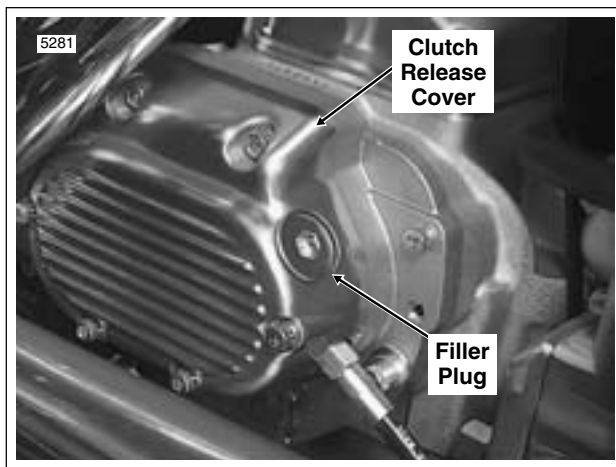
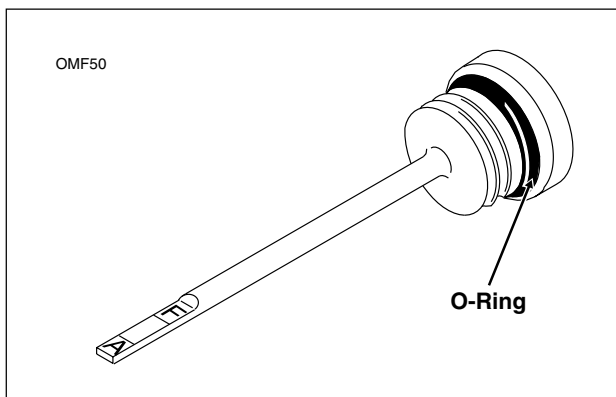

Figure 1-9. Transmission Case (Right Side)
Figure 1-10. Transmission Lubricant Filler Plug/Dipstick
1. Remove the filler plug from the clutch release cover on the right side of the transmission case. See Figure 1-9. Check the O-ring for tears, cuts or general deterioration. Replace as necessary. See Figure 1-10.